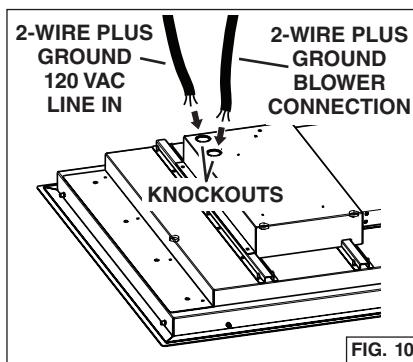

FIG. 10
1. Run 2-wire plus ground power cable to a  $\frac{3}{4}$ " knockout located on the back of the hood. Fig. 10.
1. Run 2-wire plus ground, 120 VAC electrical power cable to a  $\frac{3}{4}$ " knockout located on the back of the hood. Fig. 10.